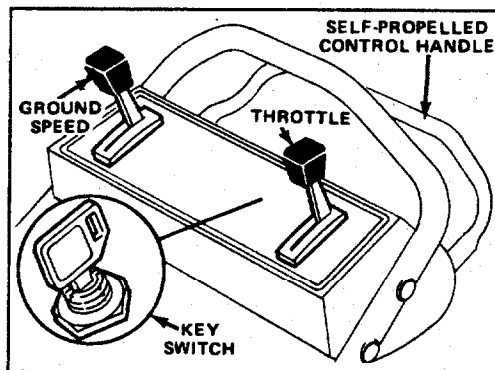
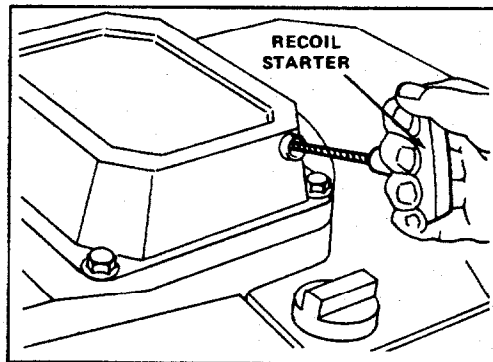

Figure 9
Figure 11
1. CONTROLS—Key switch (Model 26624 only), throttle, ground speed control, and blade/self-propelled control bar are on upper handle (Fig. 9). Recoil starter is on top of engine.
3. Move ground speed control to "N" (Fig. 9).
4. KEY-ELECTRIC STARTING (Model 26624 only)—Move throttle (Fig. 9) to CHOKE. Turn key (Fig. 9) to START and release when engine begins running. Regulate throttle as desired. If the battery's charge is too weak to start the engine, the engine can be started with the recoil starter (Fig. 11).
5. MANUAL STARTING (Model 26622)—Move throttle to CHOKE. Pull engine mounted recoil starter out until positive engagement results; then pull vigorously to start the engine (Fig. 11). Regulate throttle as desired when engine starts.
6. GROUND SPEED (Fig. 9)—Move ground speed control to desired setting. Number "1" is slow, "2" is medium, and "3" is a fast walking pace. Move ground speed control to "N" when using the mower for trimming and whenever leaving mower.
8. **STOPPING** (Fig. 9)—Release control bar to stop blade and traction drive. Move ground speed control to "N". To stop engine, move throttle to OFF. Remove key from switch or pull wire off spark plug if mower is unattended or not used.